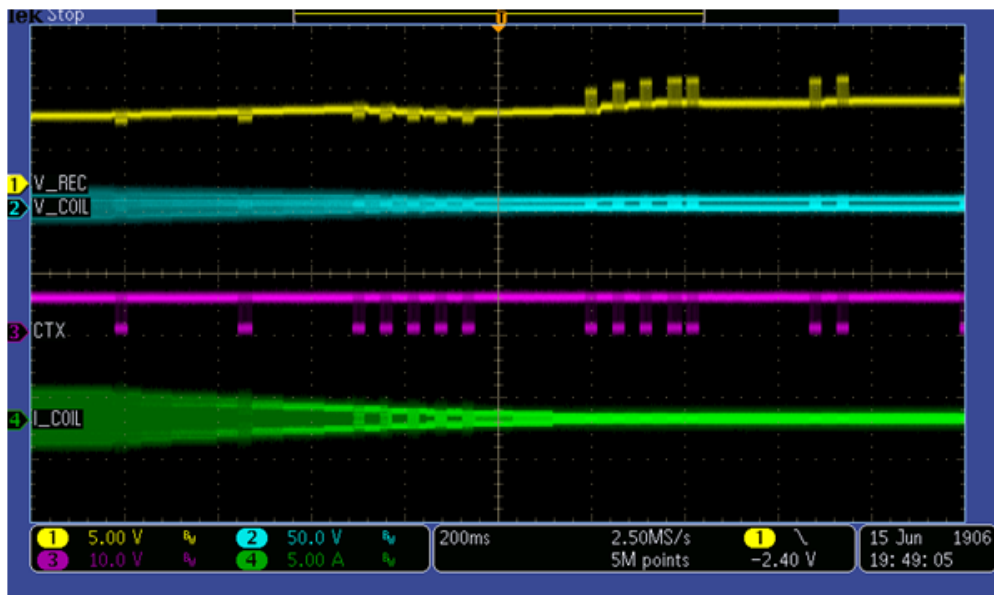

Figure 41. System response for reducing the load gradually to 0 A
- System response measurement for reducing the load gradually to 0 A is shown in Figure 41.